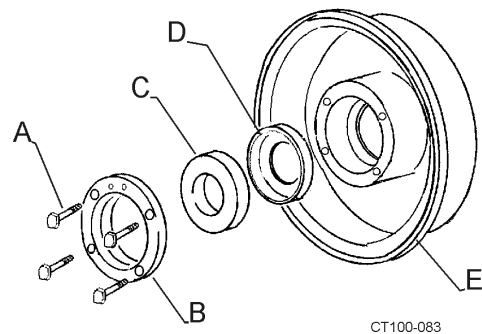
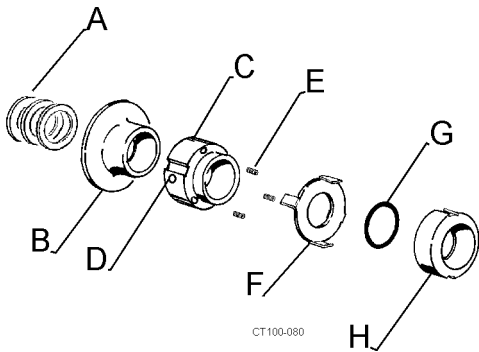

Figure 29 - Stationary Seal Assembly
Figure 31 - Type 1 Seal Assembly
1. Lightly lubricate both sides of the L-gasket (Figure 29, item D) with a sanitary lubricant and insert it into the backplate seal cavity.
2. Place the stationary seal into the L-gasket (Figure 29, items C and D).
3. Place the seat retainer over the stationary seal and secure the retainer with four 1/4-20 x 1/2 inch hex head cap screws (Figure 29, items B and A).
4. Slide the tabbed washer (Figure 29, item F) over the impeller shaft and engage the tabs of the washer into notches on the outside of the rotary seal (Figure 31, items F and H).
5. Install the three seal springs into the holes in the spring retainer (Figure 31, items C and E). Hold the springs in place with RTV silicone sealant.
6. Slide the spring retainer over the impeller shaft until the slots in the spring retainer engage the drive tabs on the washer and the springs rest against the washer (Figure 31).
8. Lock the spring retainer in place by tightening the set screws (Figure 31, item D).
9. Install the deflector onto the impeller shaft (Figure 31, item B).